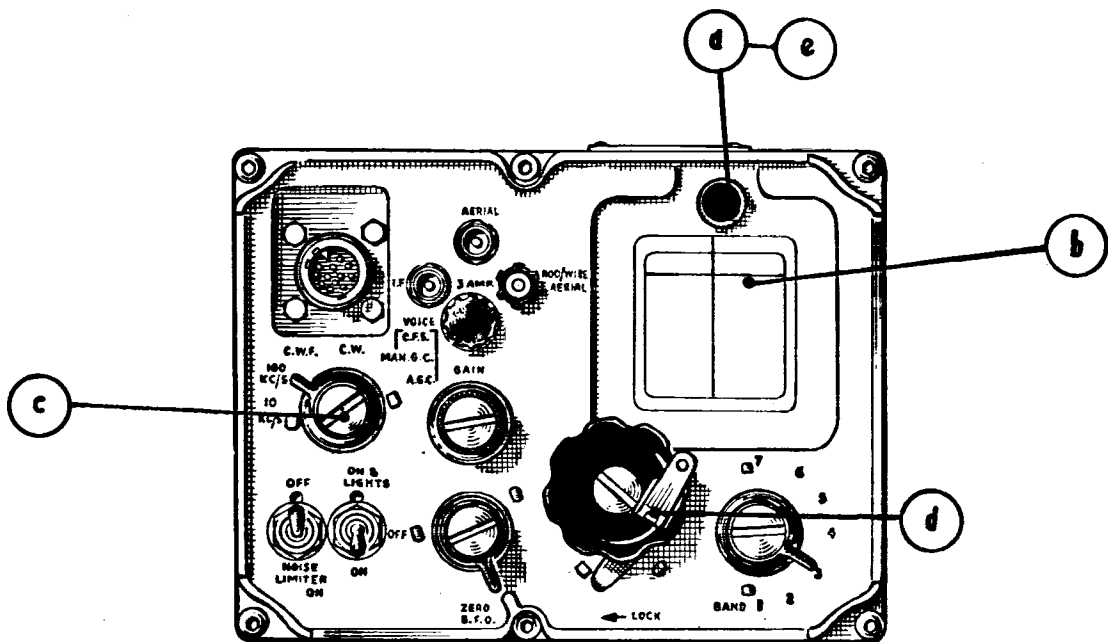

FIG. 19 SEQUENCE OF OPERATIONS TO CHECK THE EXACT FREQUENCY OF A RECEIVED SIGNAL
- (1) To Check the Exact Frequency of a Received Signal (Fig. 19)